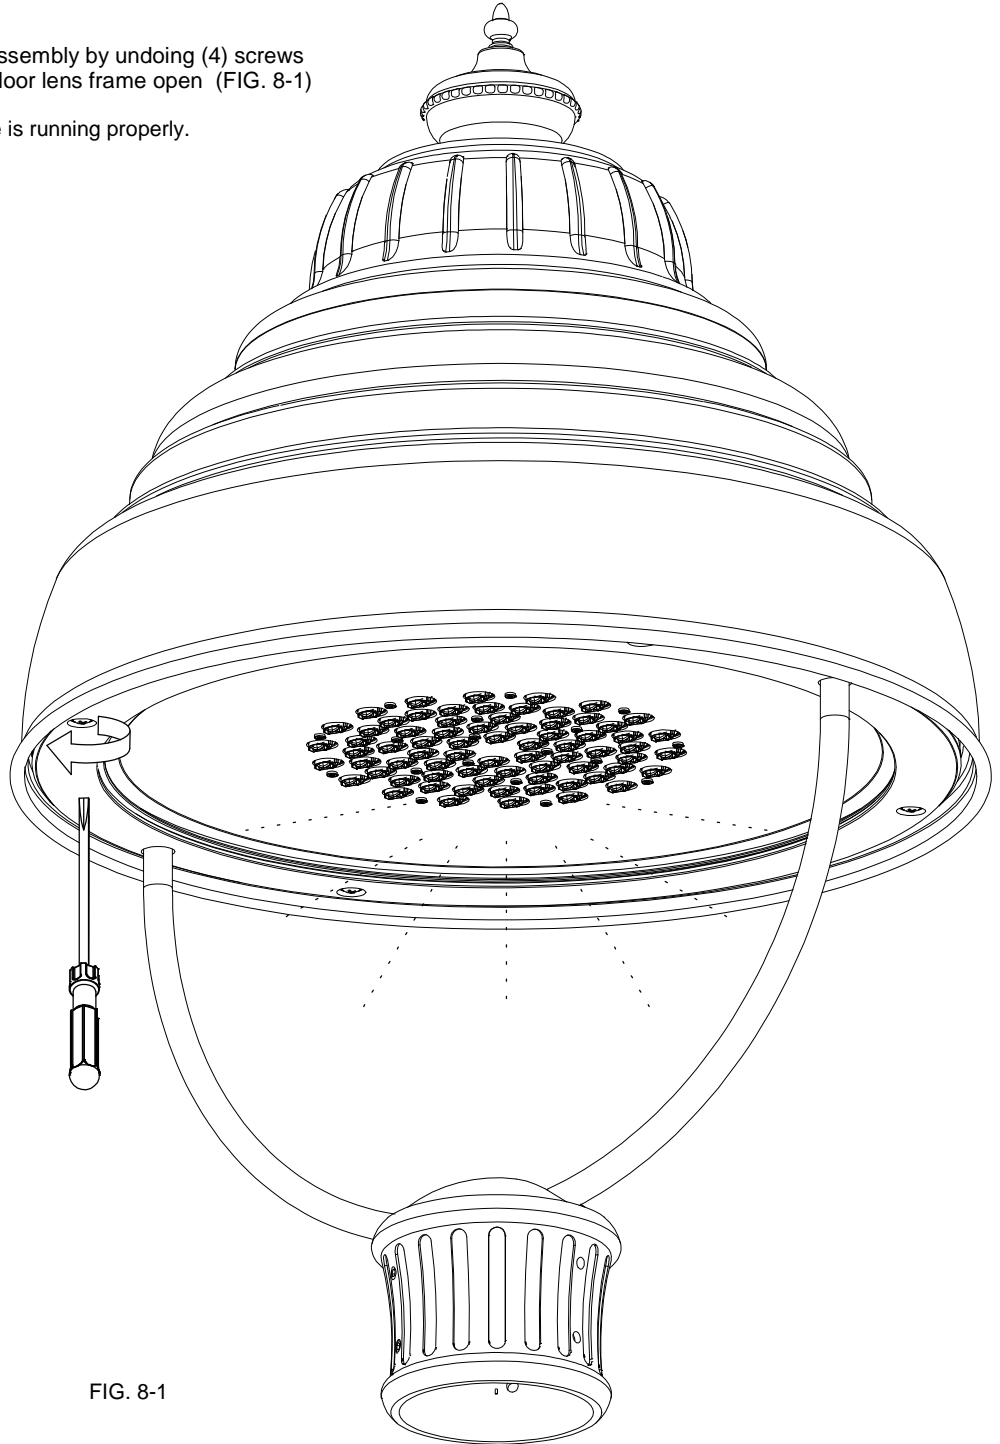

FIG. 8-1
1. Close door Lens frame of the fixture assembly by undoing (4) screws located under and carefully swing down door lens frame open (FIG. 8-1)